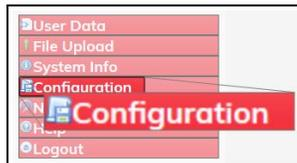

Figure 293: Configuration link
4. On the **Menu** list, click the **Configuration** link. Figure 293